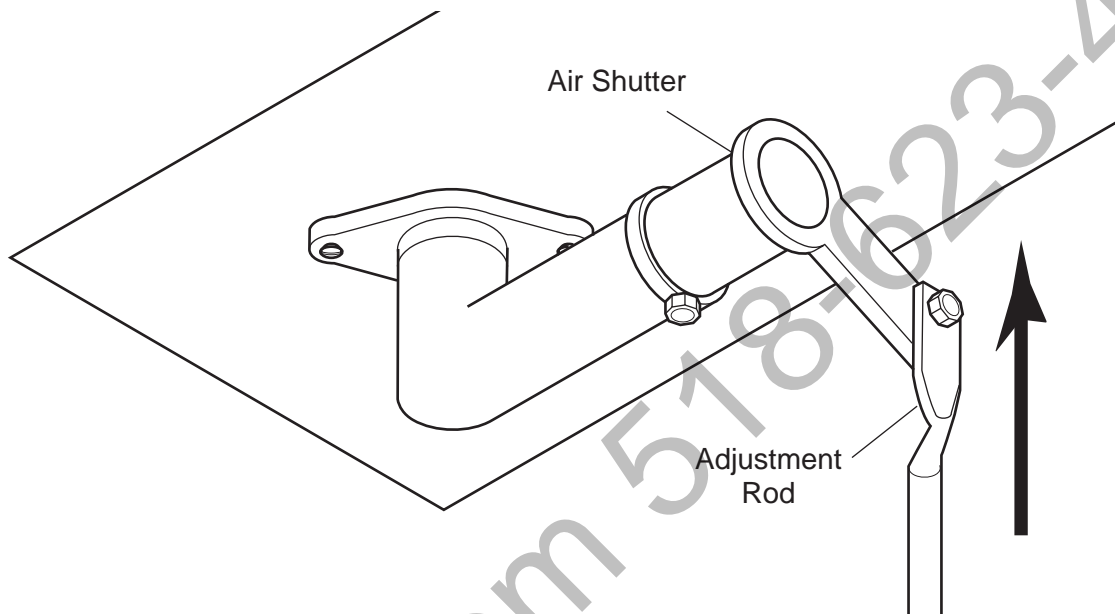

Figure 49 - Push Adjustment Rod Up to Close Air Shutter
- To increase air mixture, pull down the adjustment rod located beneath the stove. This opens the shutter more and will stop sooting. *See Figure 49.*